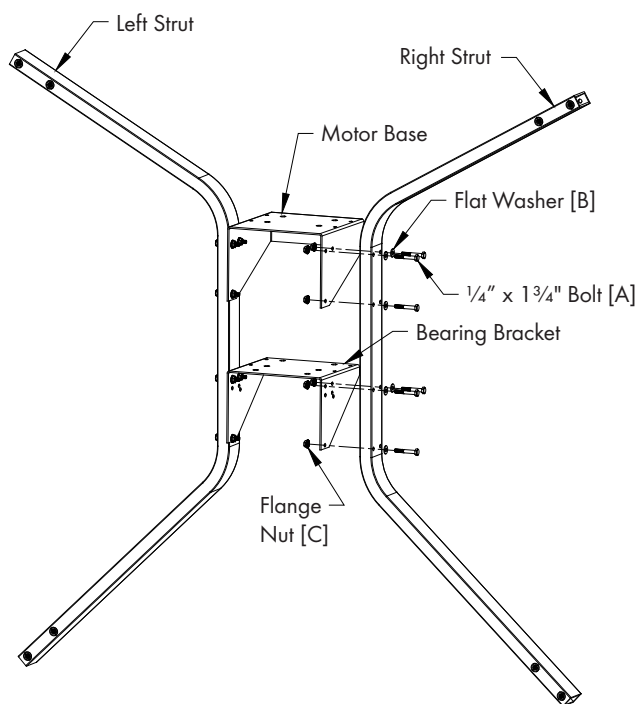

Figure 6A
With the Struts in front of you (same as Step 6B) fasten the Motor Base to Struts using (6) 1 3/4" Bolts [A], Flat Washer [B] and Flange Nut [C]. The flanges on the Motor Base point downward and the front flange will be away from the Threaded Inserts. *See Figure 6A and 6B.*
Fasten Bearing Bracket to Struts using (6) 1/4" x 1 3/4" Bolts [A], Flat Washer [B] and Flange Nut [C]. Bearing Bracket only has flanges on 2 sides, which should point downward. *See Figure 6A and 6B.* Be sure to finger tighten only.